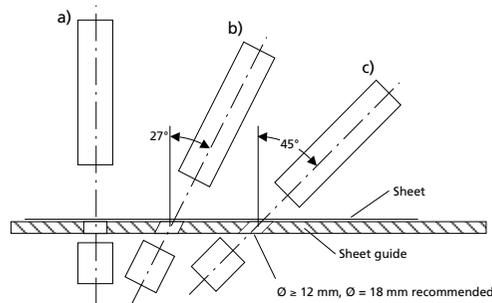

Fig. 5: Installation positions
- When working with papers and thin films, we recommend you install the dbk perpendicular to the sheet (see fig. 5 a).
with a deviation of 27° from the perpendicular (see fig. 5 b).
- Types of paper that lead to false triggering when the dbk is mounted perpendicular (as a rule, types with air pockets) can frequently be scanned more accurately when the dbk is installed at an angle of 45° to the sheet. If the dbk is angled towards the corrugations of corrugated, the system can even be used to scan fine corrugateds (G and F; see fig. 5 c).
- If you install the transmitter in a recessed position or position a sheet guide between the transmitter and receiver, the hole must have a minimum diameter of ≥ 12 mm, but we recommend a diameter of 18 mm (fig. 5).